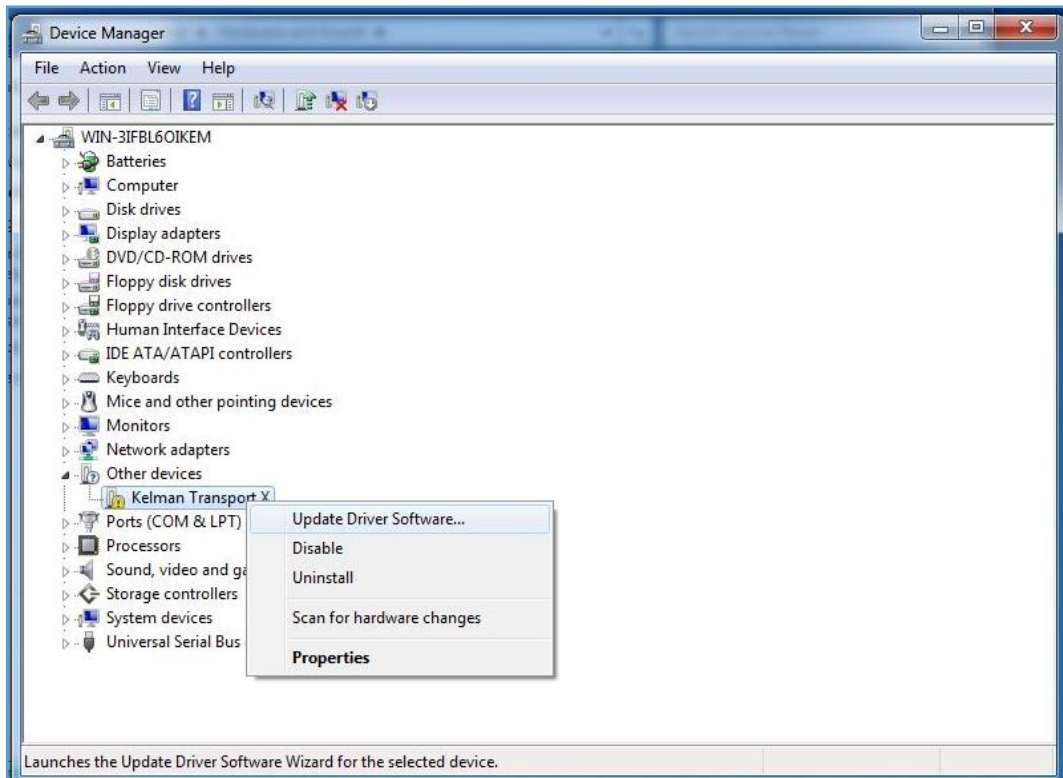

Figure A-10: Device Manager - Update Driver Software
- Right-click **Kelman Transport X** and select **Update Driver Software** as shown in Figure A-10.